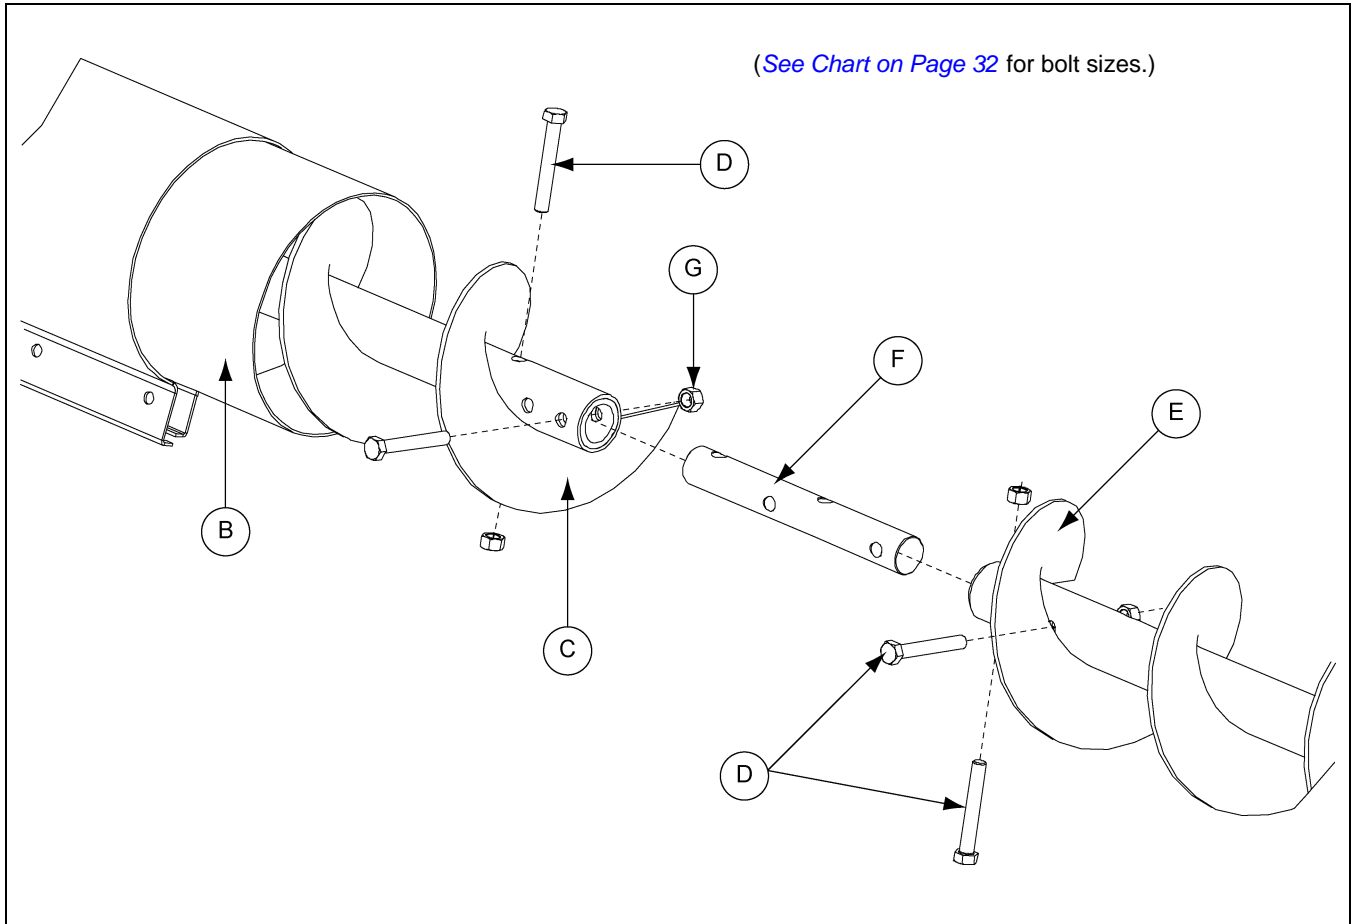

Figure 4M
2. Slide the flight connecting shaft into the main section of flight (C) and bolt together with grade 8 hex bolt (D) and stover nut (G). Next slide extension flight onto connecting shaft and bolt together using proper grade 8 bolts and stover nuts (G). (See Chart below and Figure 4M on Page 33.)